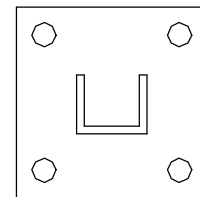

FIGURE 7
3. Orient the square base per Figure 7. Mount using fasteners suitable for the type of floor construction,